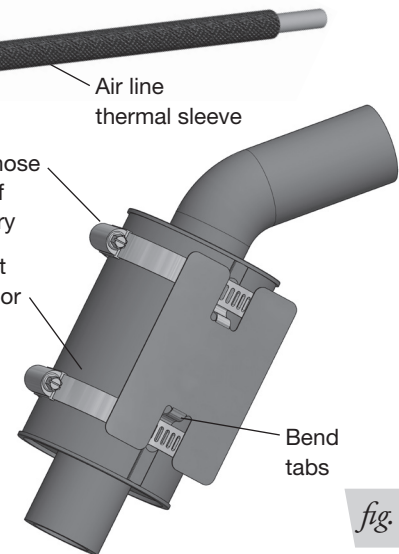

fig. 14
1. Attach the metal heat shield to the exhaust where it is closest to the passenger's (right) side air spring. Slide the air line thermal sleeve over the air line and position it where the air line is closest to the exhaust. (Fig. 14)